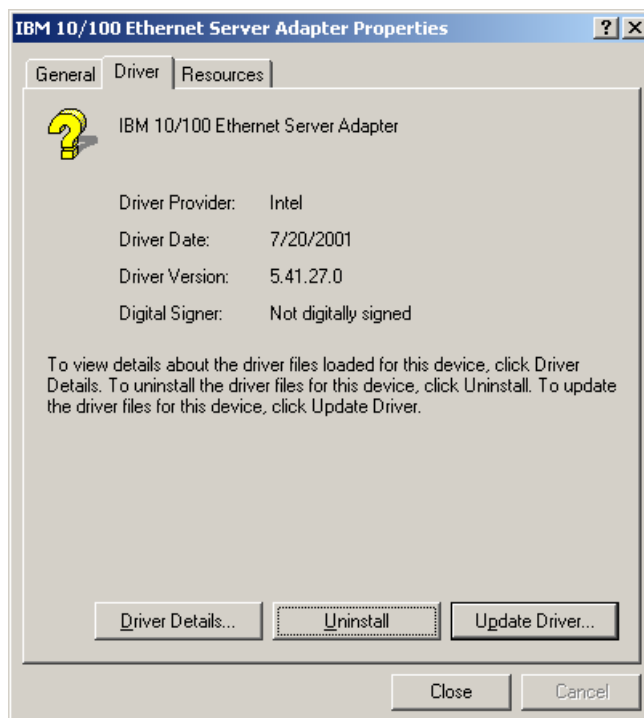

Figure 2-33 Adapter properties dialog box
10) The driver properties of the network adapter are displayed. See Figure 2-33.